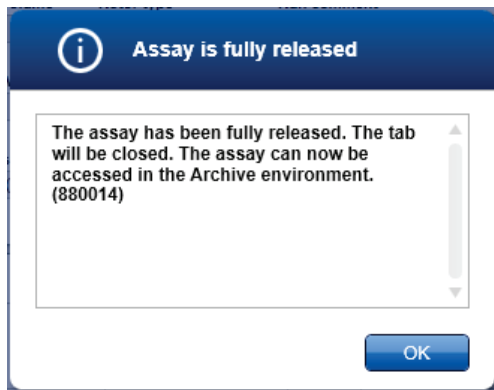

Figure 16. Example of Assay is fully released window.
33. Click **OK**. The Assay is fully released dialog box will open (Figure 16).